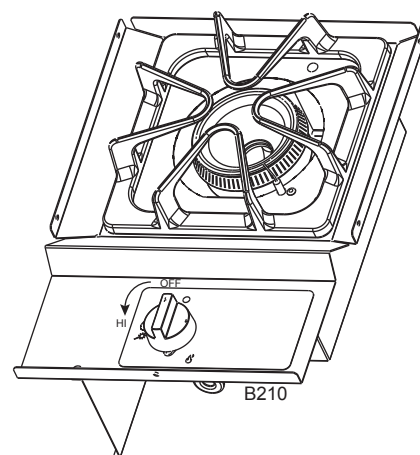

Figure 13a - Side Burner
1. Ensure the main Propane Tank Valve or the main Natural Gas supply valve are in the on position. Turn the side burner control knob to HIGH. (Fig. 13a)
2. Push and hold the igniter button, you will hear a series of clicks as the igniter module generates an ignition spark to the burners. The burner should light within five (5) seconds. (Refer to Page 13)